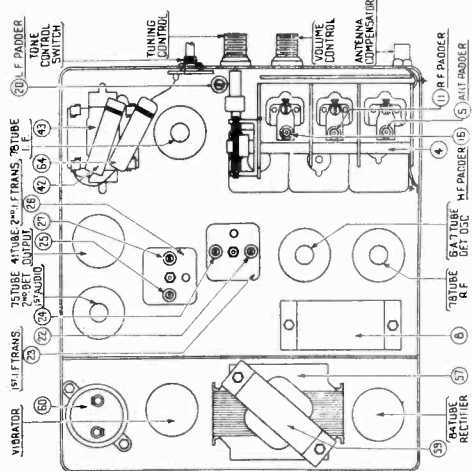

FIGURE 8
**I. P. —** Set the signal generator at exactly 260 K. C. Connect the generator lead to the grid cap of the 6A7 tube in series with a .1 mfd. condenser (without removing the grid clip). Adjust padders ③, ④, and ⑤ on the first and second I. F. transformers for maximum reading on the output meter. (See Figure 8 for location of padders).